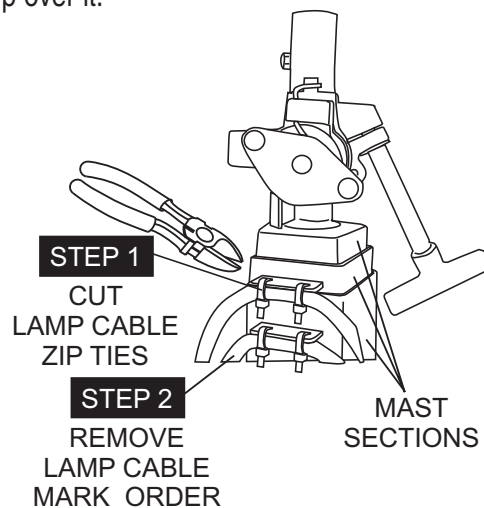

Figure 32. Cutting the Lamp Cable Zip Ties
1. Cut all the cable zip ties (Figure 32) that secure the lamp cable to the various mast sections.